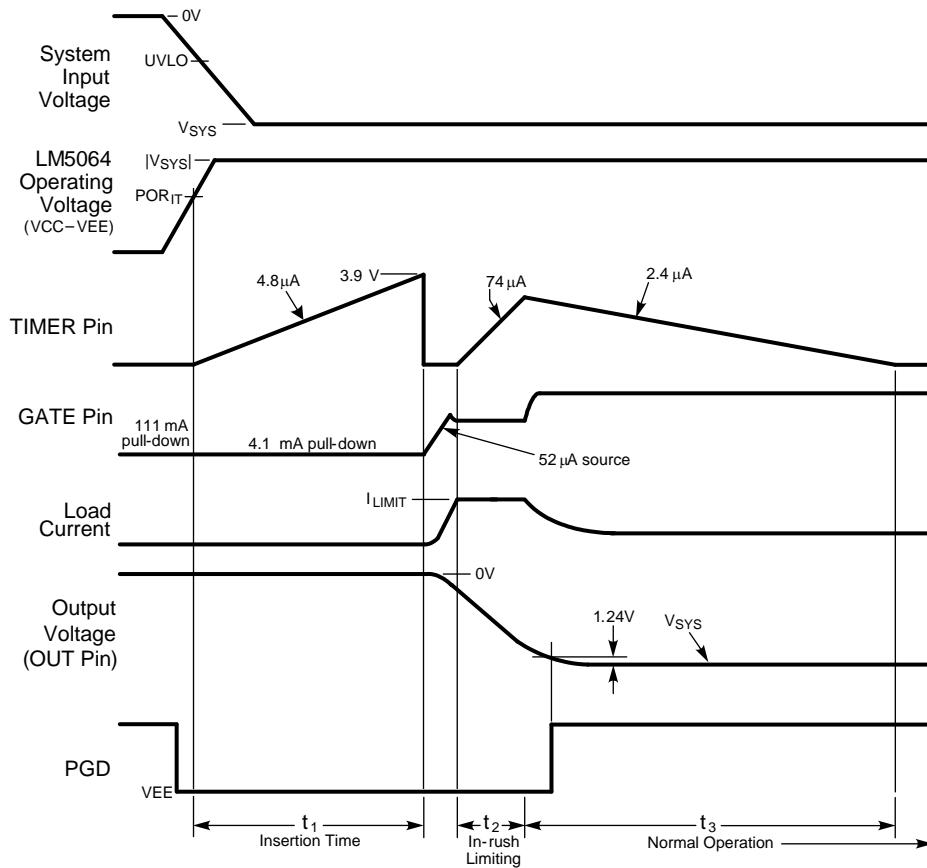

Figure 2. Power Up Sequence
Referring to Figure 2, as the system voltage ( $V_{SYS}$ ) initially increases, the external N-channel MOSFET ( $Q_1$ ) is held off by an internal 111 mA pull-down current at the GATE pin. The strong pull-down current at the GATE pin prevents an inadvertent turn on as the MOSFET’s gate-to-drain (Miller) capacitance is charged. Additionally, the TIMER pin is initially held at VEE. When the operating voltage of the LM5064 (VCC - VEE) reaches the **PORIT** threshold, the insertion time begins. During the insertion time, the capacitor at the TIMER pin ( $C_T$ ) is charged by a 4.8  $\mu$ A current source, and  $Q_1$  is held off by a 4.1 mA pull-down current at the GATE pin regardless of the input voltage. The insertion time delay allows ringing and transients on  $V_{SYS}$  to settle before  $Q_1$  is enabled. The insertion time ends when the TIMER pin voltage reaches 3.9V.  $C_T$  is then quickly discharged by an internal 1.5 mA pull-down current. The GATE pin then switches on  $Q_1$  when the operating voltage exceeds the UVLO threshold. If the operating voltage is above the UVLO threshold at the end of the insertion time, ( $t_1$  in Figure 2) the GATE pin sources 52  $\mu$ A to charge the gate capacitance of  $Q_1$ . The maximum voltage on GATE is limited by an internal 12.6V zener diode to VEE.
As the voltage at the OUT pin transitions to  $V_{SYS}$ , the LM5064 monitors the drain current and power dissipation of MOSFET  $Q_1$ . In-rush current limiting and/or power limiting circuits actively control the current delivered to the load. During the in-rush limiting interval ( $t_2$  in Figure 2), an internal 74  $\mu$ A fault timer current source charges  $C_T$ . If  $Q_1$ ’s power dissipation and the input current reduce below their respective limiting thresholds before the TIMER pin reaches 3.9V, the 74  $\mu$ A current source is switched off, and  $C_T$  is discharged by the internal 2.4  $\mu$ A current sink ( $t_3$  in Figure 2). The in-rush limiting will no longer engage unless a current-limit condition occurs.
A current source provides the charge at the GATE pin to enhance the N-Channel MOSFET's gate ( $Q_1$ ). During normal operating conditions ( $t_3$  in Figure 2) the gate of  $Q_1$  is held charged by an internal 52  $\mu$ A current source. The GATE pin peak voltage is roughly 12.6V, which will force a  $V_{GS}$  across  $Q_1$  of 12.6V under normal operation. When the system voltage is initially applied, the GATE pin is held low by a 111 mA pull-down current. This helps prevent an inadvertent turn on of  $Q_1$  through its drain-gate capacitance as the applied system voltage increases.
During the insertion time ( $t_1$  in Figure 2), the GATE pin is held low by a 4.1 mA pull-down current. This maintains  $Q_1$  in the off-state until the end of  $t_1$ , regardless of the voltage on  $V_{SYS}$  or UVLO/EN. Following the insertion time, during  $t_2$  in Figure 2, the gate voltage of  $Q_1$  is modulated to keep the current or power dissipation level from exceeding the programmed levels. While in the current or power limiting mode, the TIMER pin capacitor is charging. If the current and power limiting cease before the TIMER pin reaches 3.9V, the TIMER pin capacitor then discharges, and the circuit begins normal operation. If the in-rush limiting condition persists such that the TIMER pin reached 3.9V during  $t_2$ , the GATE pin is then pulled low by the 4.1 mA pull-down current. The GATE pin is then held low until either a power up sequence is initiated (RETRY pin to VDD), an automatic retry is attempted (RETRY pin to VEE or floating), or a PMBus ON/OFF command is initiated. See the Fault Timer & Restart section. If the operating voltage falls below the UVLO threshold, or rises above the OVLO threshold, the GATE pin is pulled low by the 4.1 mA pull-down current to switch off  $Q_1$ .
When the current limit or power limit threshold is reached during turn-on, or as a result of a fault condition, the gate-to-source voltage of  $Q_1$  is modulated to regulate the load current and power dissipation in  $Q_1$ . When either limiting function is active, a 74 μA fault timer current source charges the external capacitor ( $C_T$ ) at the TIMER pin as shown in Figure 2 (Fault Timeout Period). If the fault condition subsides during the Fault Timeout Period before the TIMER pin reaches 3.9V, the LM5064 returns to the normal operating mode and  $C_T$  is discharged by the 1.5 mA current sink. If the TIMER pin reaches 3.9V during the Fault Timeout Period,  $Q_1$  is switched off by a 4.1 mA pull-down current at the GATE pin. The subsequent restart procedure then depends on the selected retry configuration.
**A) Insertion Delay** -Upon applying the system voltage ( $V_{SYS}$ ) to the circuit, the external MOSFET ( $Q_1$ ) is held off during the insertion time ( $t_1$  in Figure 2) to allow ringing and transients at  $V_{SYS}$  to settle. Since each backplane's response to a circuit card plug-in is unique, the worst case settling time must be determined for each application. The insertion time starts when  $V_{SYS}$  reaches the POR threshold, at which time the internal 4.8  $\mu$ A current source charges  $C_T$  from 0V to 3.9V. The required capacitor value is calculated from: